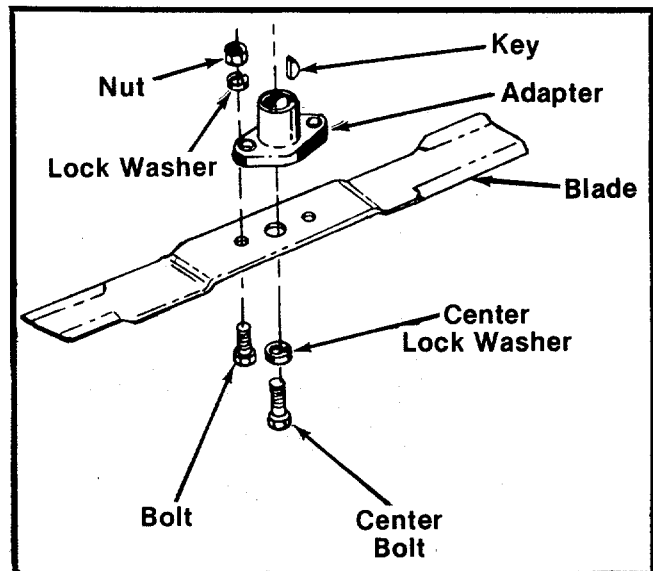

FIGURE 25.
3. Be careful not to lose the key on the crankshaft. See figure 25.
4. Remove the two smaller bolts, lock washers and nuts holding the blade to the adapter. See figure 25.